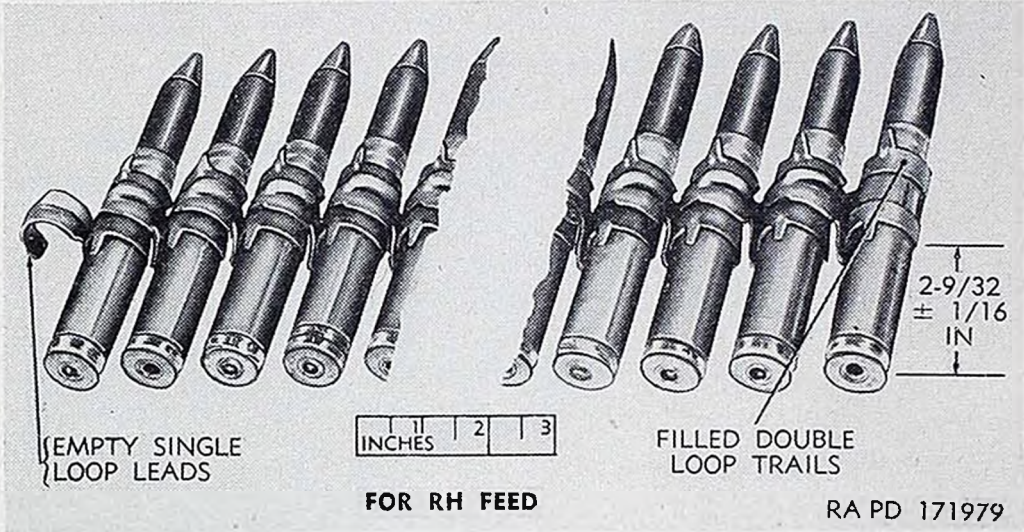

Figure 25. Loaded belt for single-loop right-hand feed.
- (3) The completed belt, as shown in figure 25, must be flexible. Lift the left-hand end of the loop and draw it along the top of the belt to the right. If a link is deformed or improperly installed, it will cause a twist and the cartridges will not lap over evenly. All imperfect links must be replaced with other links and the examination repeated.
- (4) Test the belt for links that are too large by hanging it from one end and applying a twisting motion to the other until resistance is felt. The belt will come apart wherever there are oversize links.